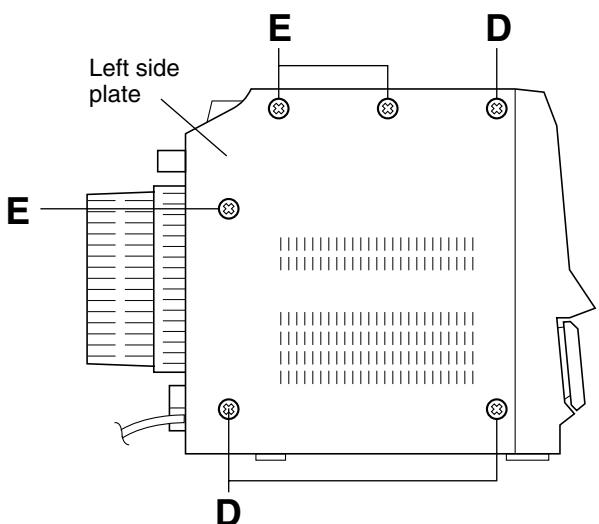

Fig.6
- Remove the left side plate according to its disassembly method (see Figs. 6 and 7).
(See Figs. 6 and 7.)
1. From the left side of the main body, remove the three screws **D** and three screws **E** retaining the left side plate. (See Fig.6.)